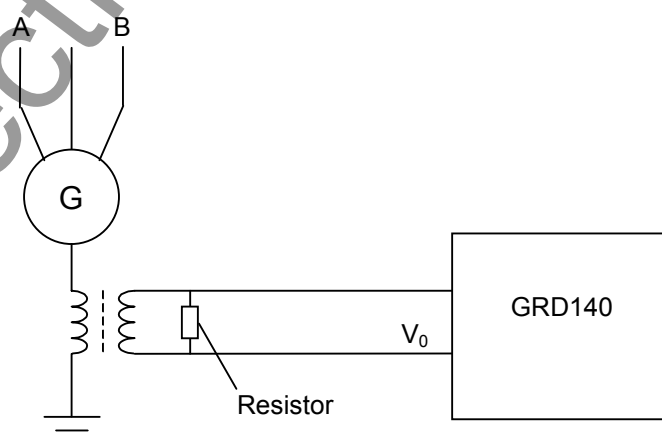

Figure 2.2.10 Earth Fault Detection on Generator
- Measuring the residual voltage across the earthing transformers as shown in Figure 2.2.10.